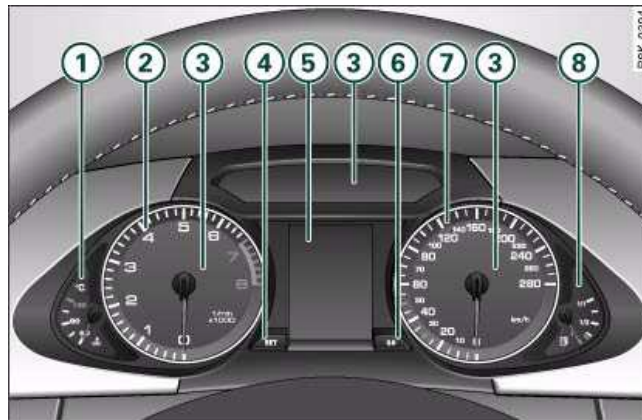

Fig. 2 Overview of instrument cluster
The coolant temperature gauge ① ⇒ fig. 2 only works when the ignition is switched on. In order to avoid possible damage to the engine, please read the following notes for the different temperature ranges.
Never allow the rev counter needle ② ⇒ page 11, fig. 2 to go into the red zone on the dial for more than a very brief period: there is a risk of damaging the engine. The start of the red zone on the dial is different for some engine versions.